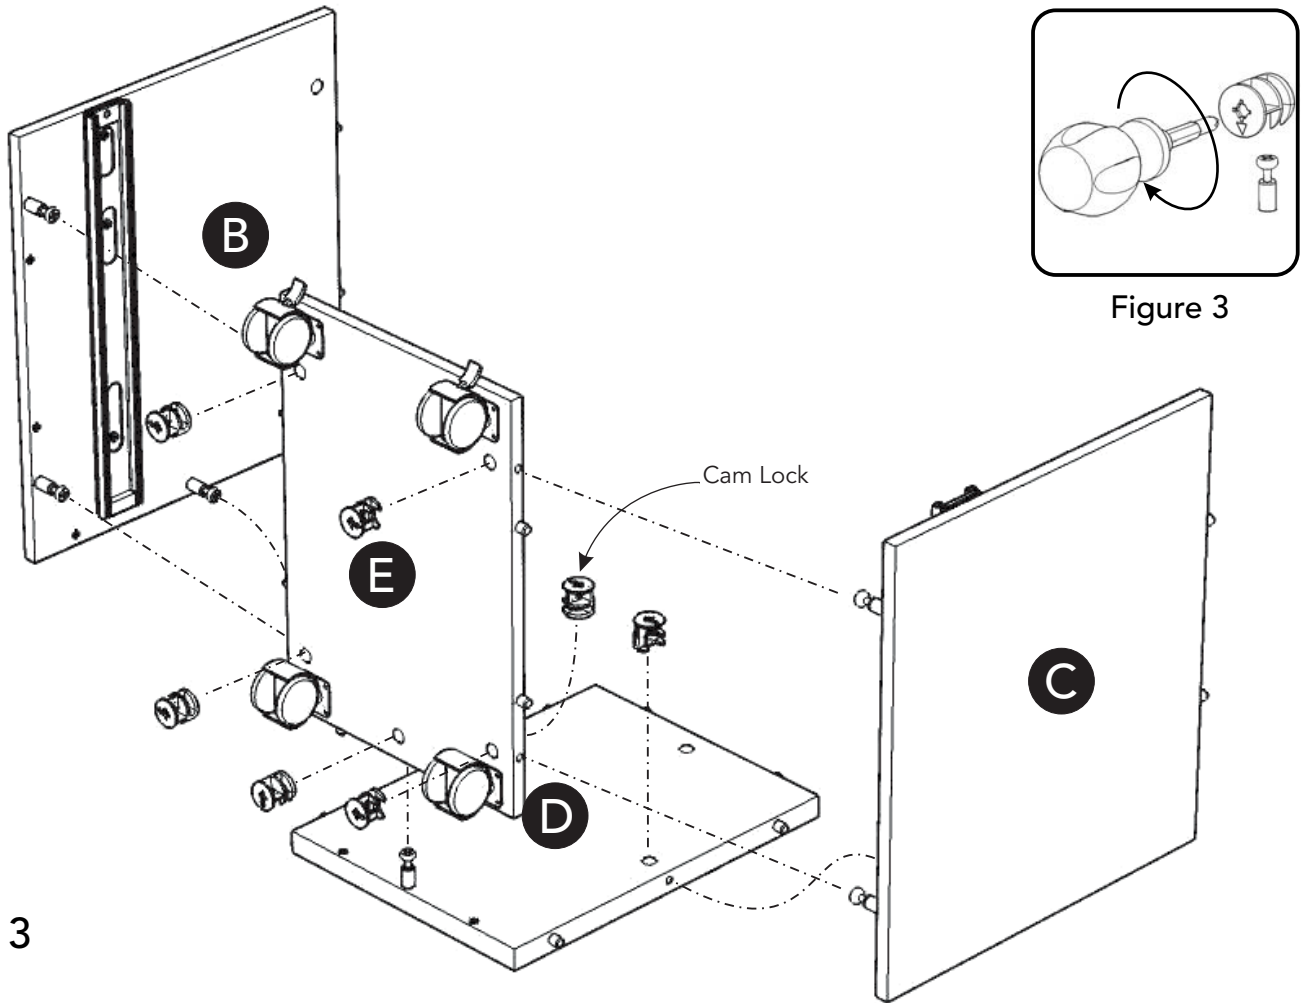

Figure 3
Attach Base (E) to Back Panel (D) with Cam Lock. (See Figure 3)